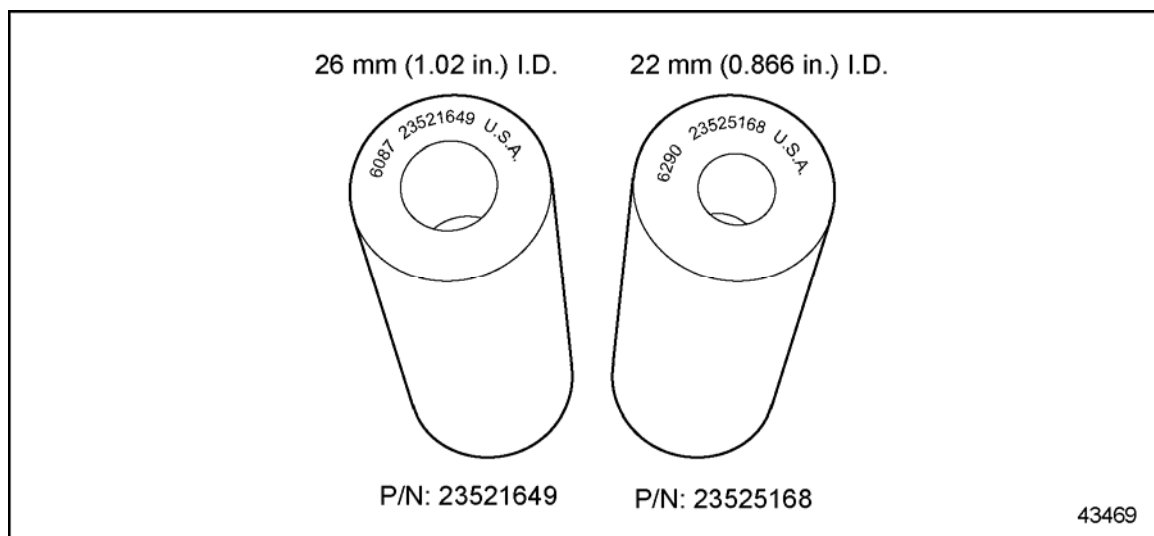

Figure 1 Series 60 Piston Pins
- P/N 23525168 – This pin has an I.D. of 22 mm (0.866 in.). See Table 1 and Figure 1.
- P/N 23521649 – This pin has an I.D. of 26 mm (1.02 in.). See Table 1 and Figure 1.